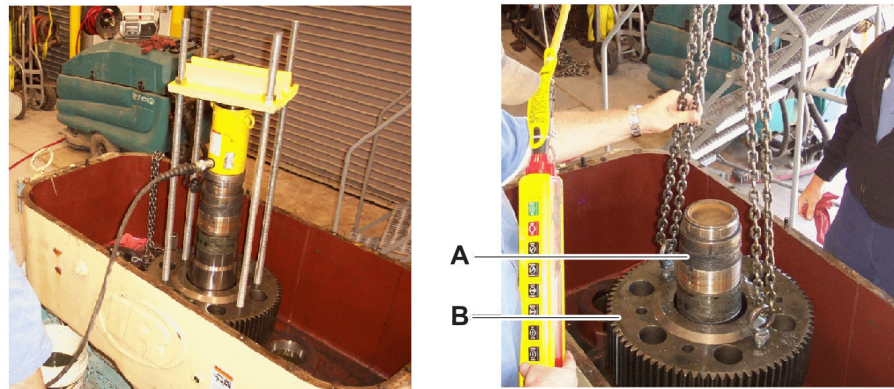

Figure 2
3. Use lifting chains and hoist to remove the output gear (Figure 2, item B) from the spindle (item A) as shown. Remove key from the spindle.